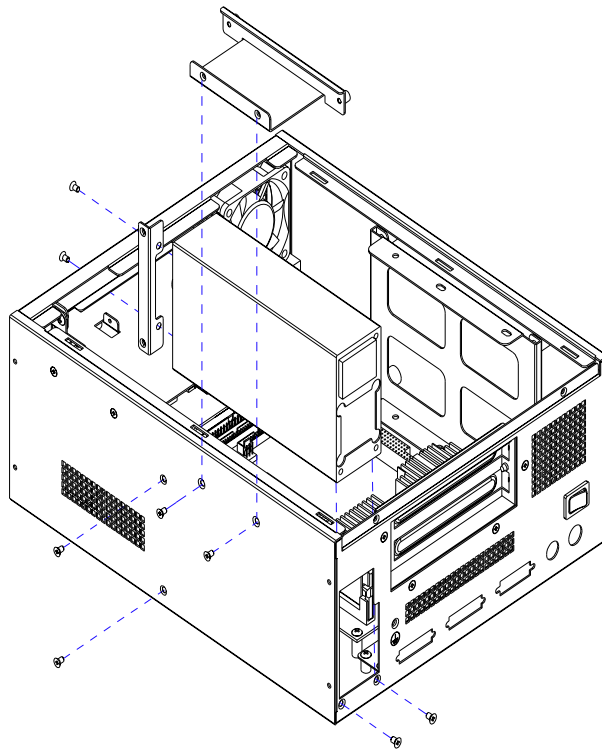

Figure 4.4 Replacing the power supply
5. To remove the power bracket, please loosen the two screws on the riser card first. Then take out the power supply and remove the two screws on the bracket. (see Figure 4.4)